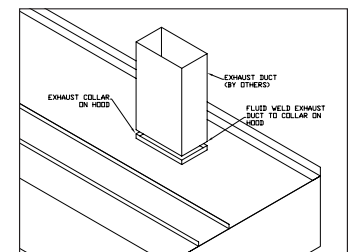

FIGURE 3
4. Place vent on wall, level front to back and left to right, then bolt metal hanging bracket located on top of hood to wall (See Fig. 3).
6. Fluid weld exhaust duct to hood exhaust duct collar (See Fig. 3).